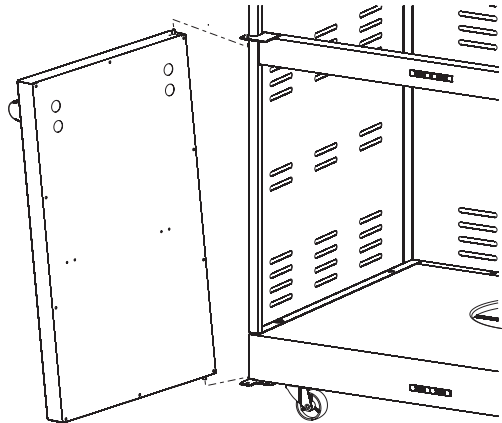

Figure 3
8. Place bottom pivot pins on doors into cart bottom and snap spring-loaded top pivot pins into door brace. **See Figure 3.**